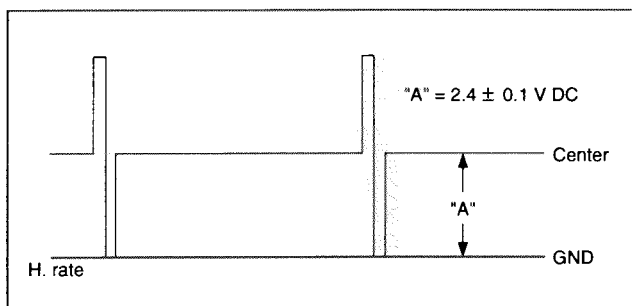

Fig. 3-4-3 PLL
- 2) Adjust VR7201 so that DC level of "A" (between the waveform center and GND, see Fig. 3-4-3) of a waveform becomes 2.4 V DC.